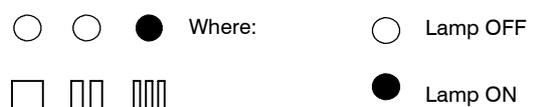

Fig. 15
- 9 Press the reset button D once until the lamps F give the indication as in Fig. 15 (boiler mode).